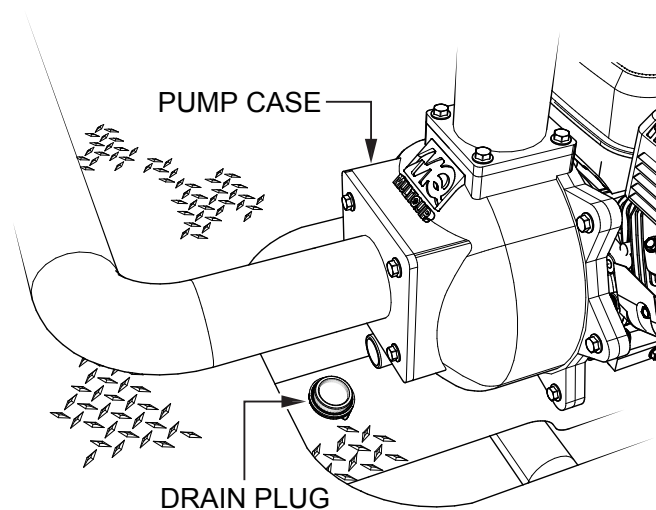

Figure 24. Removing Drain Plug
3. Locate and remove Pump Case Cover drain plug on pump end (Figure 24).